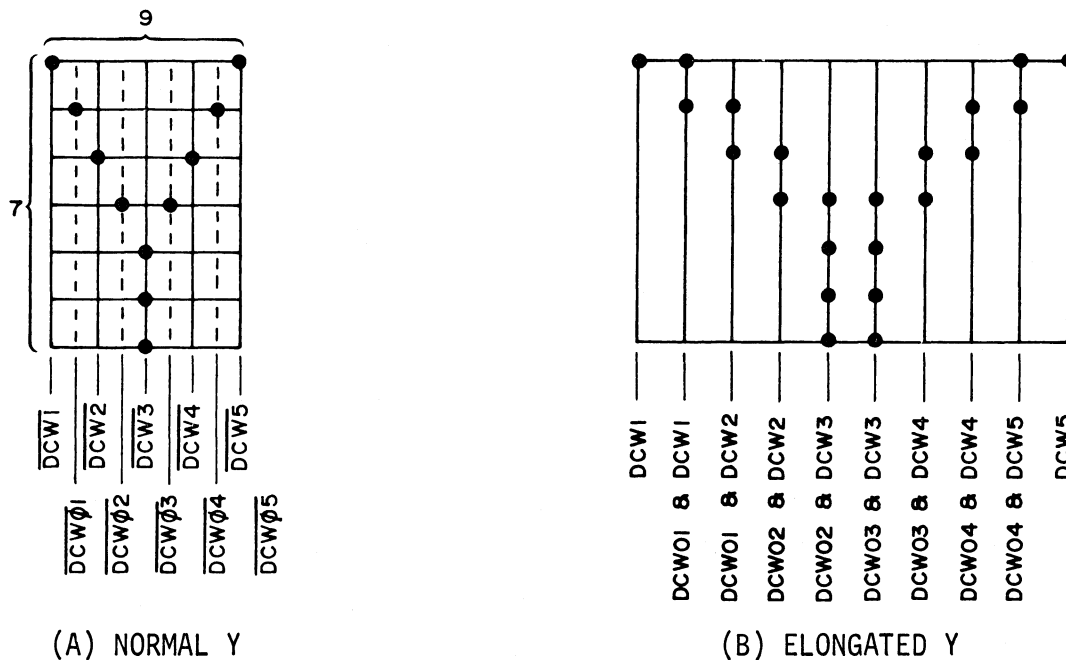

Figure 4-7. NORMAL AND ELONGATED CHARACTERS
For elongated character printing, ROME2 is coincident with the STROBE signal. This combined with the fact that the DCW timing signals from LSI chip ME16 are twice as long during elongated character mode, causes the printed character to be twice as wide as normal characters. An example of the character (Y), both in normal and elongated style, is shown in Figure 4-7.